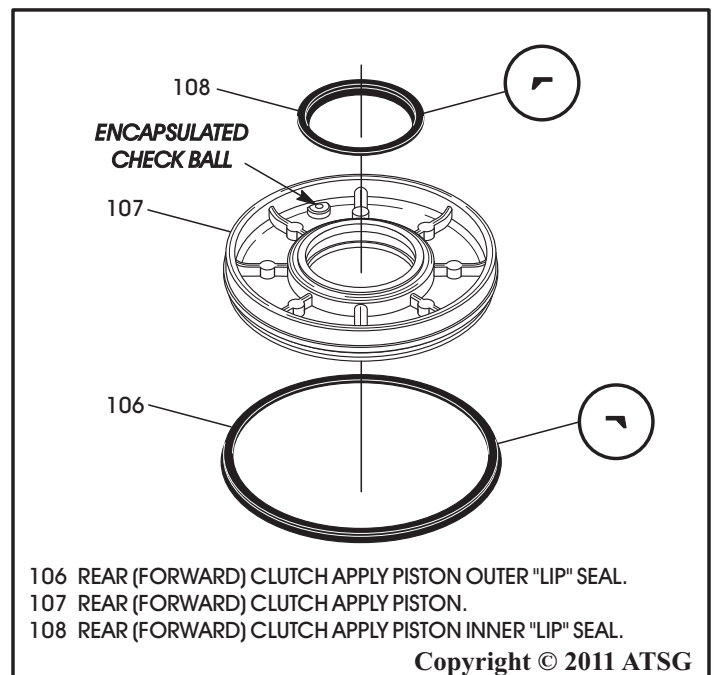

Figure 124
7. Install new inner and outer lip seals on forward clutch piston with the lips facing the direction shown in Figure 124, and lube with a small amount of Trans-Jel®.